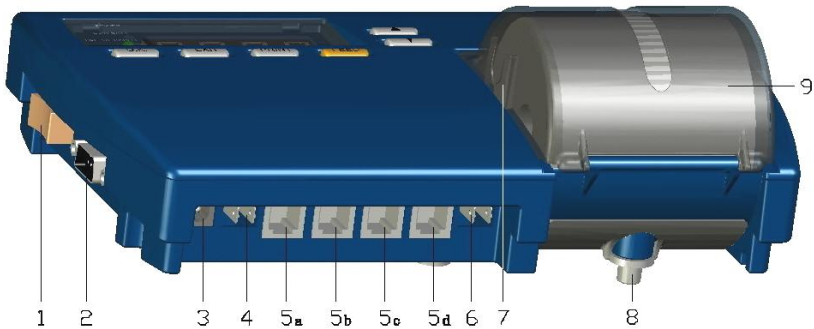

Figure 1: Vision Recorder - Front/Top View
Figure 1 shows the front and top of the VLT.
3. Open the paper cover by pushing the two cover clips (item 7 in Figure 1) to the inside and pulling the cover out.